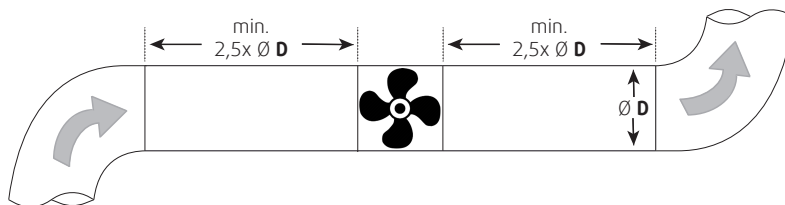

Fig. 1 Straight ducts
- ◆ Ensure a smooth and constant air flow to the device. Ensure a free exhaust. See Fig. 1 *Straight ducts*, page 15.